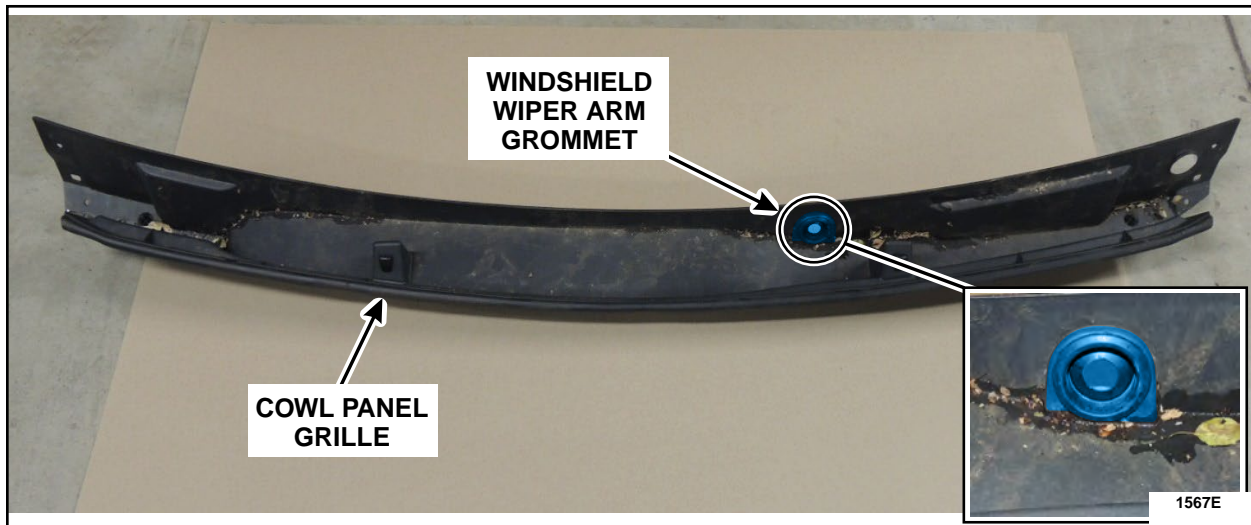

FIGURE 11
17. Replace the passenger side windshield wiper arm grommet on the cowl panel grille. See Figure 11.